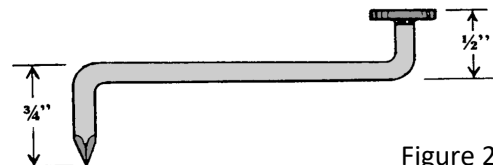

Figure 2
5. Bend the 3" nail as shown in *Figure 2* using pliers or vice and hammer. This is the crank nail or switch.